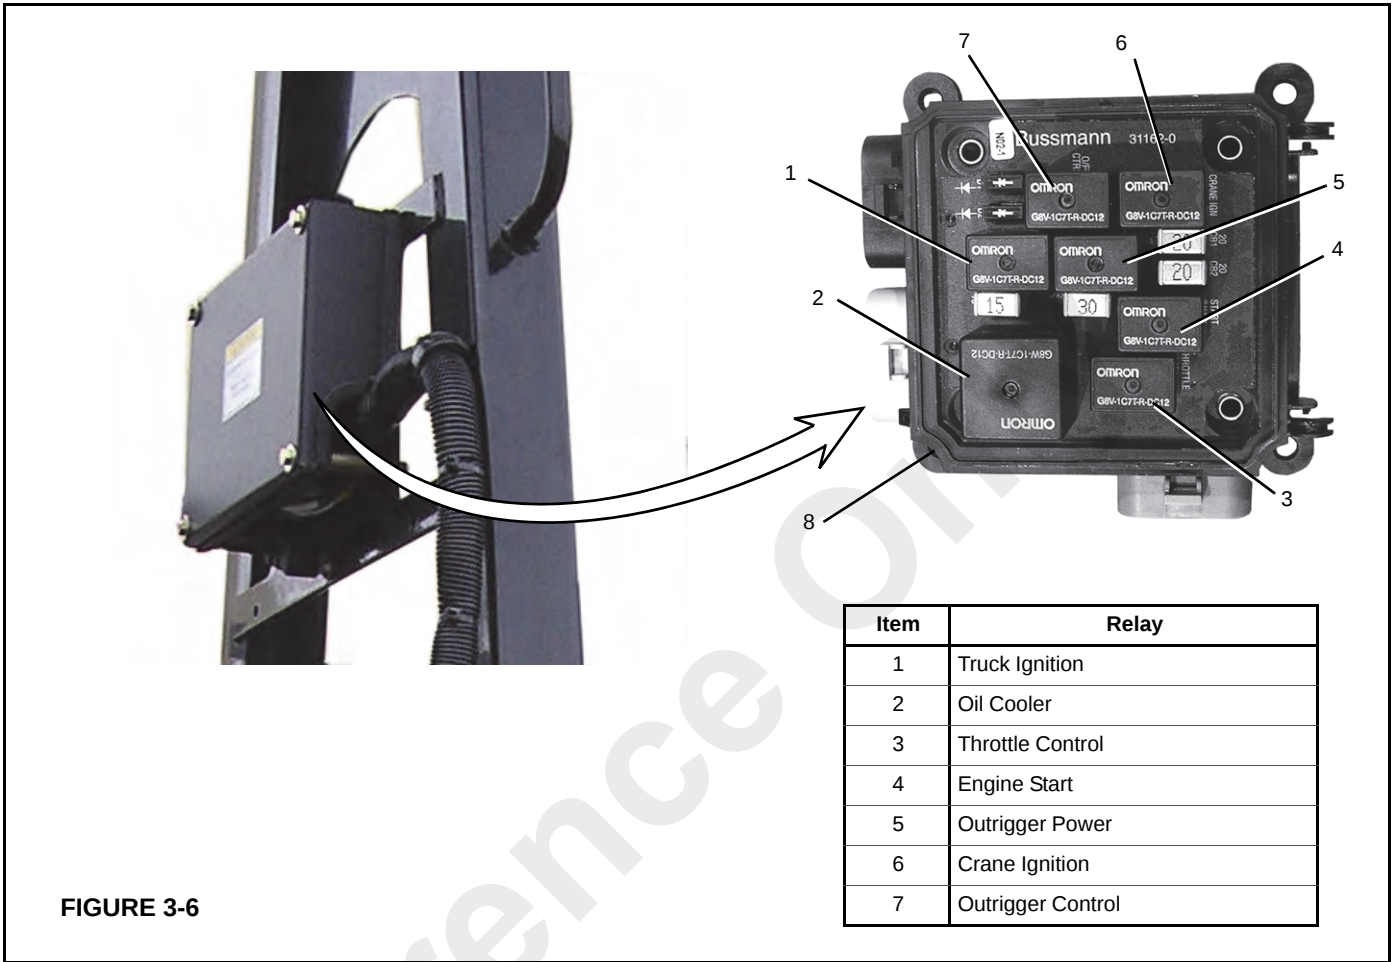

FIGURE 3-6
The Vehicle Electrical Center (VEC) module (8, Figure 3-6) is located in an enclosure on the boom rest above the front outrigger manifold. The VEC module contains the following relays and circuit breakers:
The temperature sensor (2) is located in the cooling core and energizes the fan relay when the hydraulic oil reaches 49° C (120° F). The fan relay is in the VEC module (Figure 3-6) and turns the fan on when energized. If the fan does not run when the hydraulic oil is hot check the temperature sensor, relay, and fan motor.